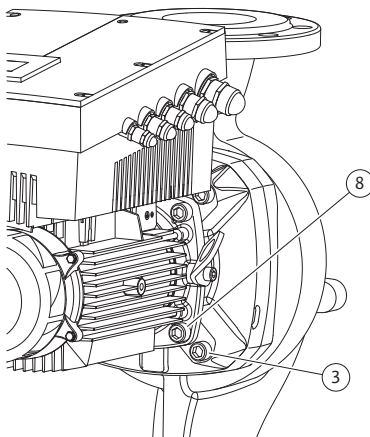

Fig. 50: Optional fixation of the motor impeller unit
11. Loosen and remove the screws (Fig. 7, Item 3). Depending on the pump type, the outer screws (Fig. 50, Item 3) are to be taken. The motor impeller unit (see Fig. 13) remains securely in the pump housing after the removal of the screws; there is no danger of tipping even in the horizontal position of the motor shaft.
16. Depending on the pump type, loosen the screws (Fig. 7, Item 10) or alternatively, the screws (Fig. 50, Item 8).
22. Carefully push the lantern over the shaft and position it in the old position or another desired angular position to the motor flange. Observe the permitted installation positions of the components when doing this (see chapter 7.1 "Permitted installations position and change of the arrangement of components before the installation" on page 85). Attach the lantern with the screws (Fig. 7, Item 10) **or** – for the pump/lantern types in accordance with (Fig. 50) – with the screws (Fig. 50, Item 8) at the motor flange.